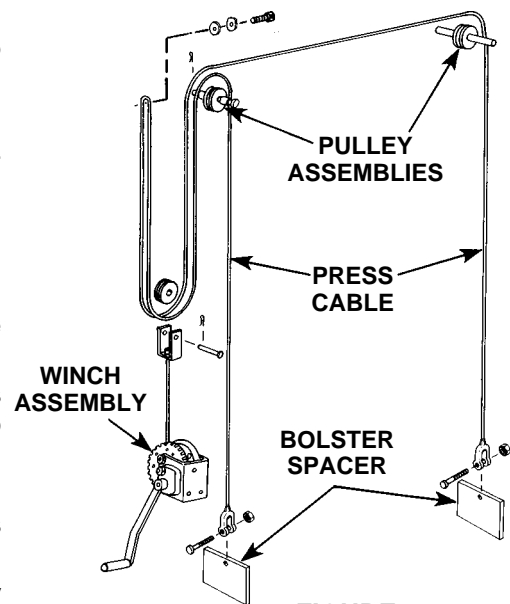

FIGURE 1
11. Attach one end of press cable (#3, sheet 3 of 3) to right side of lower bolster (#12) with cable anchoring cap screw (#1, sheet 3 of 3) and lock nut (#2, sheet 3 of 3). Thread remaining end of cable through pulley (#3) and attach to left side of lower bolster. To finish threading the press cable, refer to the cable threading diagram in Figure 1 on this page.